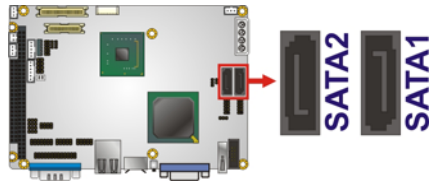

Figure 3-20: SATA Drive Connector Location
- CN Location:** See **Figure 3-20**